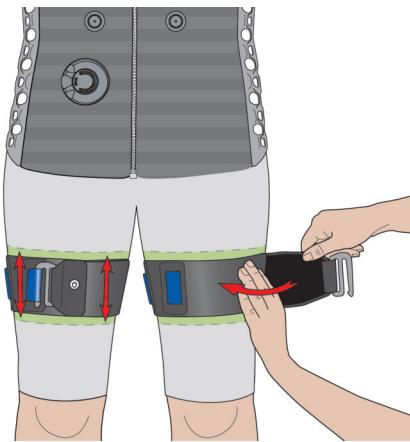

Fig. 44: Putting on the i-body® strap flex
14. Pre-stretch one i-body® strap flex and strap it on the leg (Fig. 44).